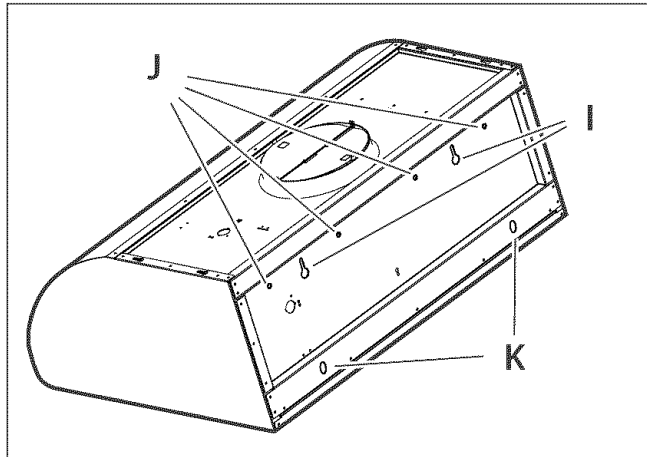

FIG. 6
11. Hang the hood using slots I in Figure 6. Make sure the wood bracket fits into the recess on the back of the hood.